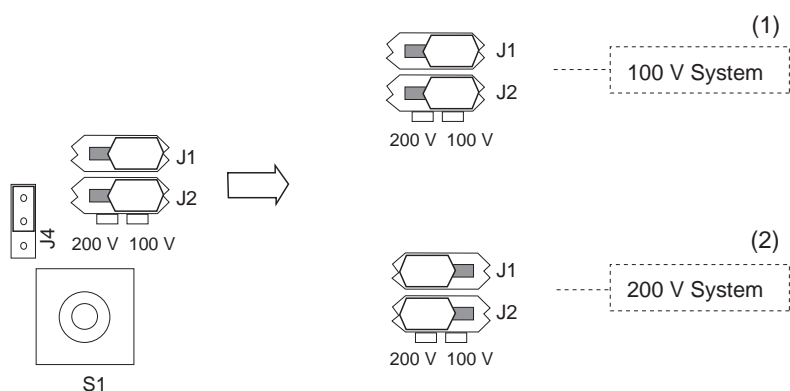

Figure 4.6 “Power Supply Voltage” Selection Jumper
If power supply specification for the free available chlorine analyzer (non-reagent type) used is the 100 V system, confirm that the “power supply voltage” selection jumper is set as shown in Figure 4.6 (1).
If the power supply specification is the 200 V system, confirm that the jumper is set as shown in Figure 4.6 (2).